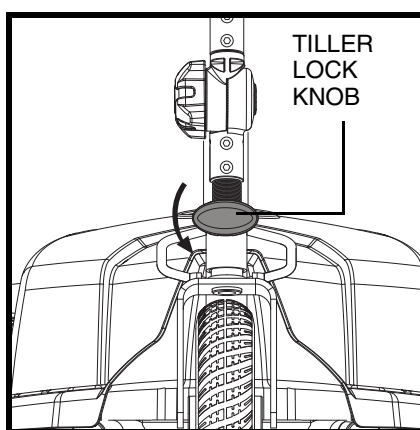

Figure 24. Tiller Lock knob (Unlocked)
9. Unlock the front wheel by turning the tiller lock knob 90° counterclockwise. **See figure 24.**